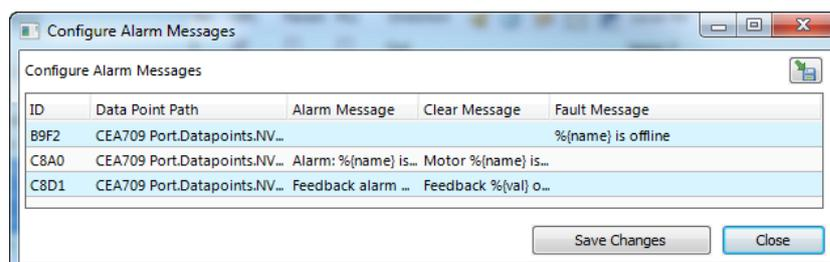

Figure 198: Spreadsheet for multi-edit of alarm messages.
- **Configure Alarm Messages:** Use this option from the context menu for editing alarm messages (alarm, clear, fault) for all data points in the selection. A dialog with a spreadsheet view appears as shown in Figure 198. Edit the messages directly in the spreadsheet. Alternatively, click on the export button  to export the spreadsheet as a CSV file for editing in Excel. Import a CSV file with alarm messages in the menu **Tools** → **Import alarm messages**.